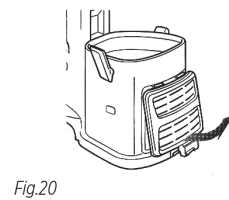

Fig.20
- 1 Remove the filter cover from the front of the vacuum by pulling up on the tab and pulling the cover away from the vacuum. (Fig. 20)